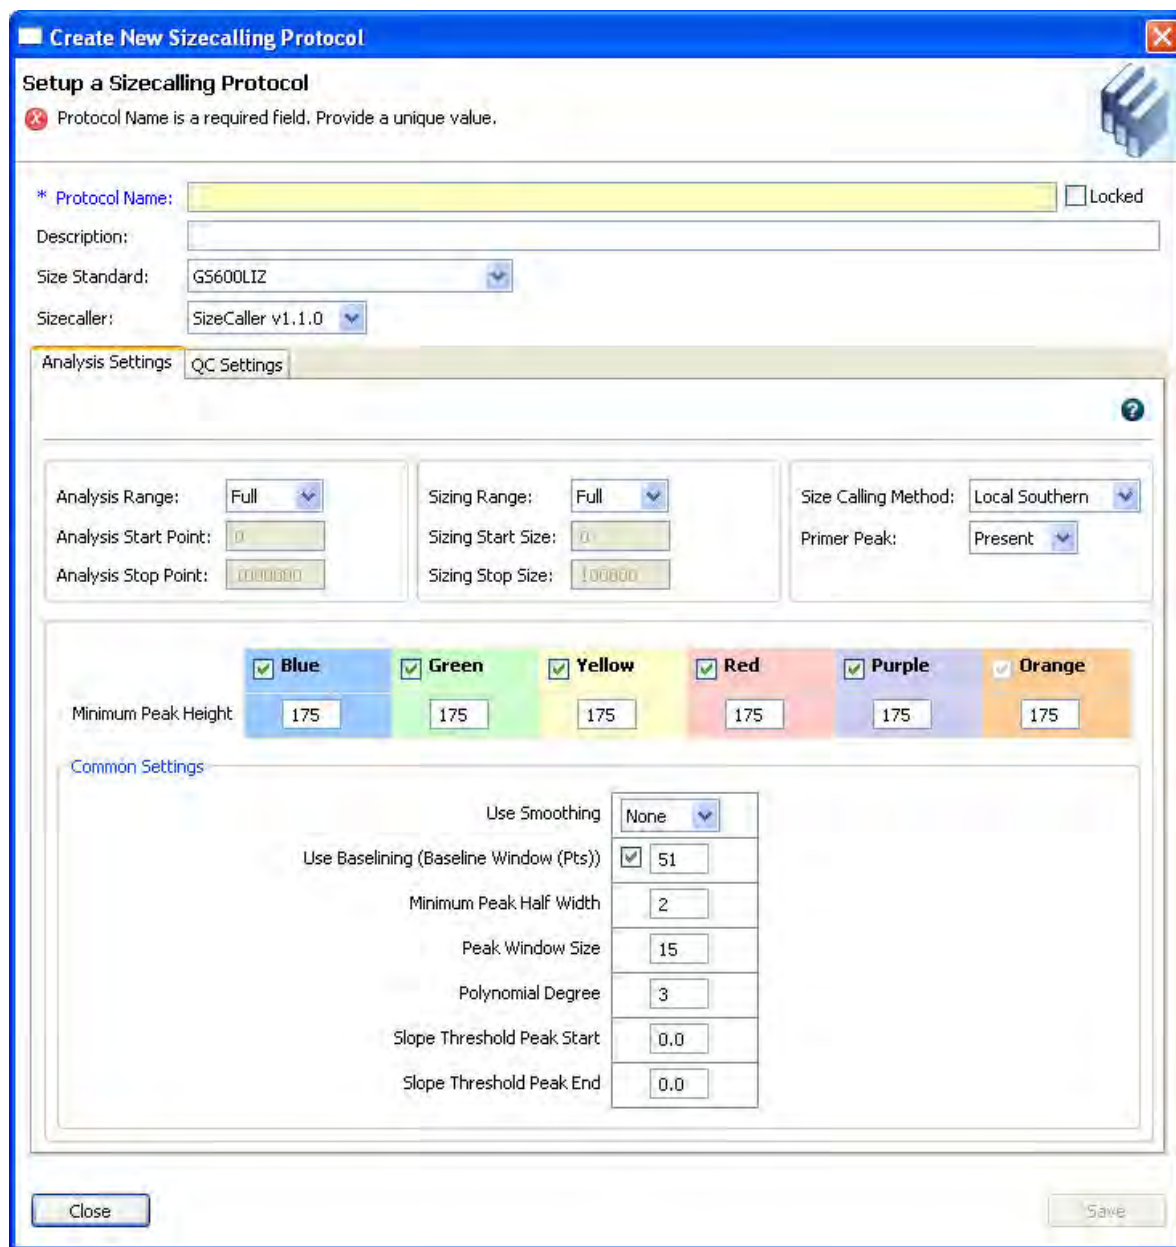

Figure 34 Create New Sizing Protocol—Analysis Settings
3. In the Analysis Settings tab of the Create New Sizecalling Protocol dialog box (Figure 34), specify settings (see “Sizecalling protocol—Analysis settings” on page 208).